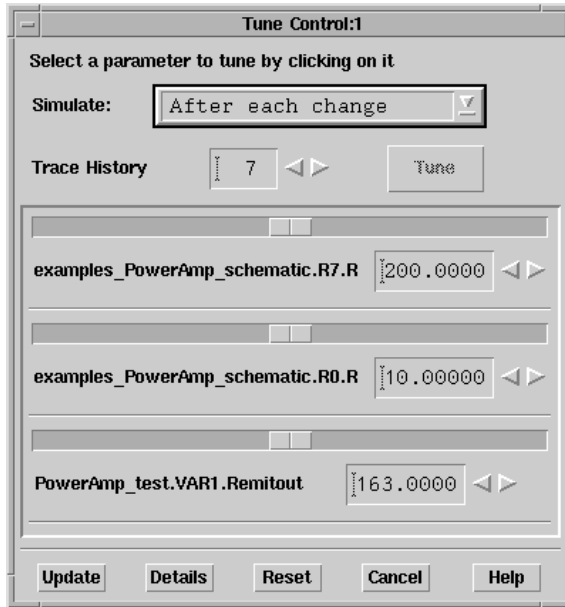

Figure 7-4. ADS Tune Control Dialog Box
7. In the ADS Schematic window, click the design variable *Remitout* in the VAR1 block. Figure 7-4 shows the ADS Tune Control dialog box with *R7.R*, *R0.R*, and *VAR1.Remitout* being selected. Recall that *VAR1.Remitout* is a design variable originated from the Cadence subcircuit.